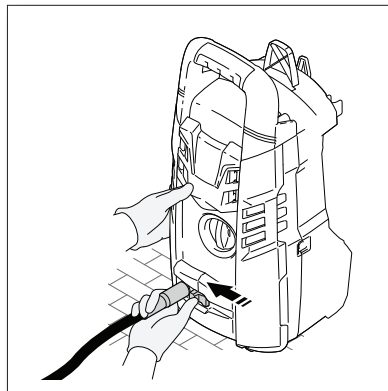

Fig. 4
- Lock it into place by sliding locking mechanism into place **(Fig. 4)**.